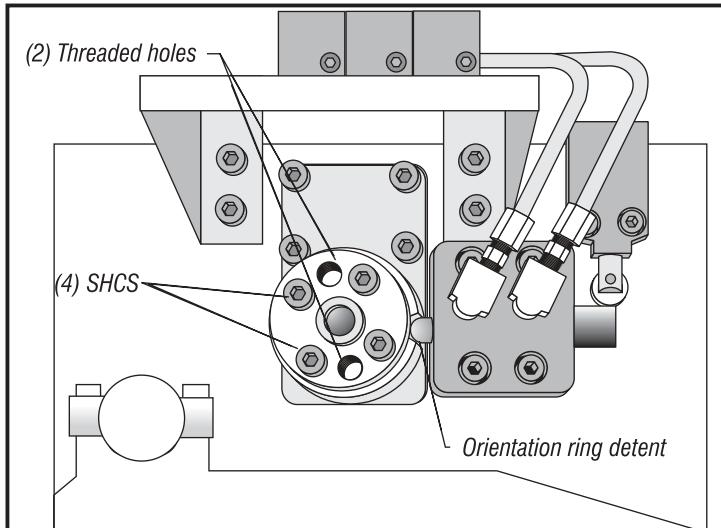

Figure 3.4-2. Rear view of spindle orientation components.
3. Loosen the four SHCS on the orientation ring (Figure 3.4-2). Remove two of these screws and insert them into the two threaded holes in the ring. Evenly tighten these two screws until the taper lock is broken free from the shaft.